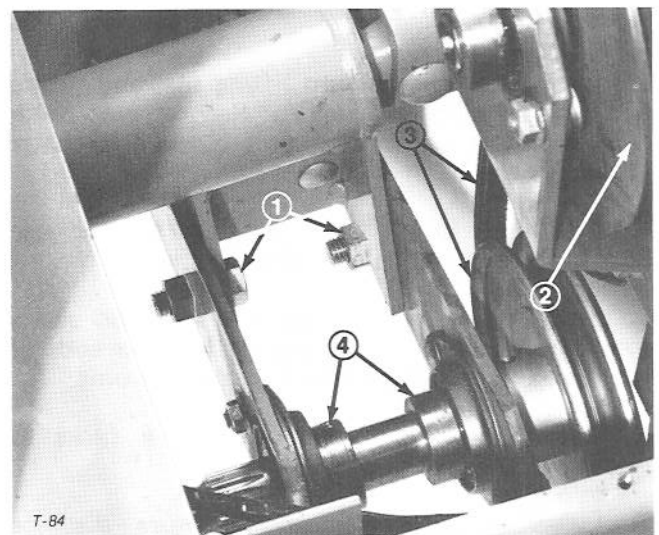
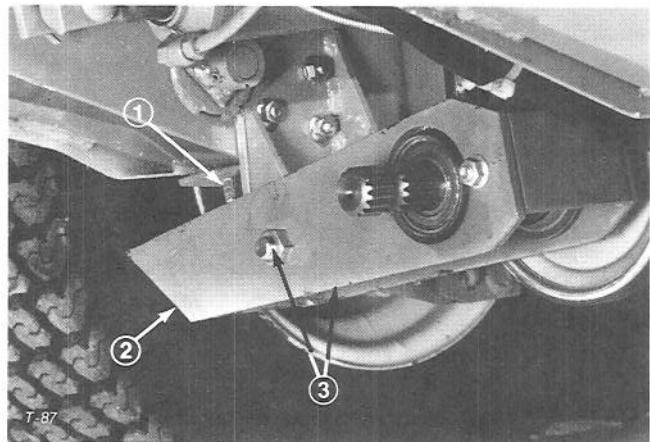

Figure 11
Figure 14
9. Install belt over pulley on traction unit, mount jackshaft assembly to hinge plate and loosely secure with 1/2 x 1-1/4" capscrews and locknuts (Fig. 11). Slip drive belt over jackshaft pulley (Fig. 11).
shaft to achieve correct dimension and lock bearing collars (Fig. 11).
9. Adjust V belt tension. Turn hex nut further onto 3/8 x 3 inch machine screw installed through floor board, angle support and jackshaft bearing support (Fig. 14). Turn nut until there is 5/32 inch deflection of the belt midway between the pulleys when approximately 7 lb force is applied (Fig. 11). Tighten remaining hex nut against adjusting nut to secure adjustment. Tighten 1/2 x 1-1/4 inch capscrews and locknuts (Fig. 14).